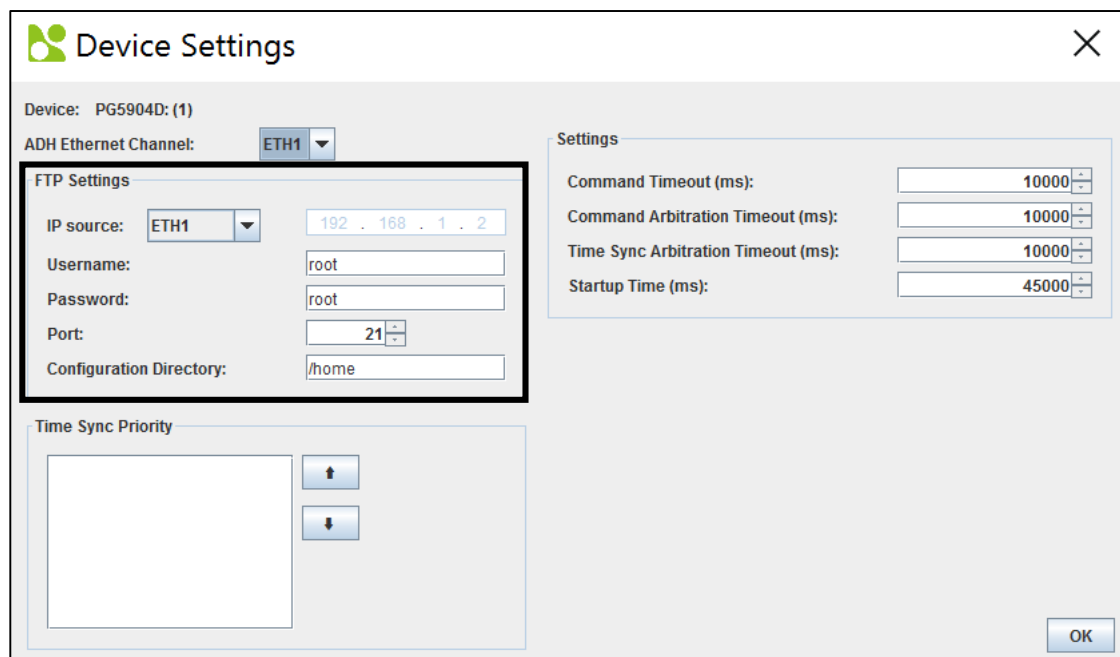

Figure 5-25 - Device settings window.
- 1 **Open Device Settings** – Can be used to change FTP settings as in Figure 5-25.